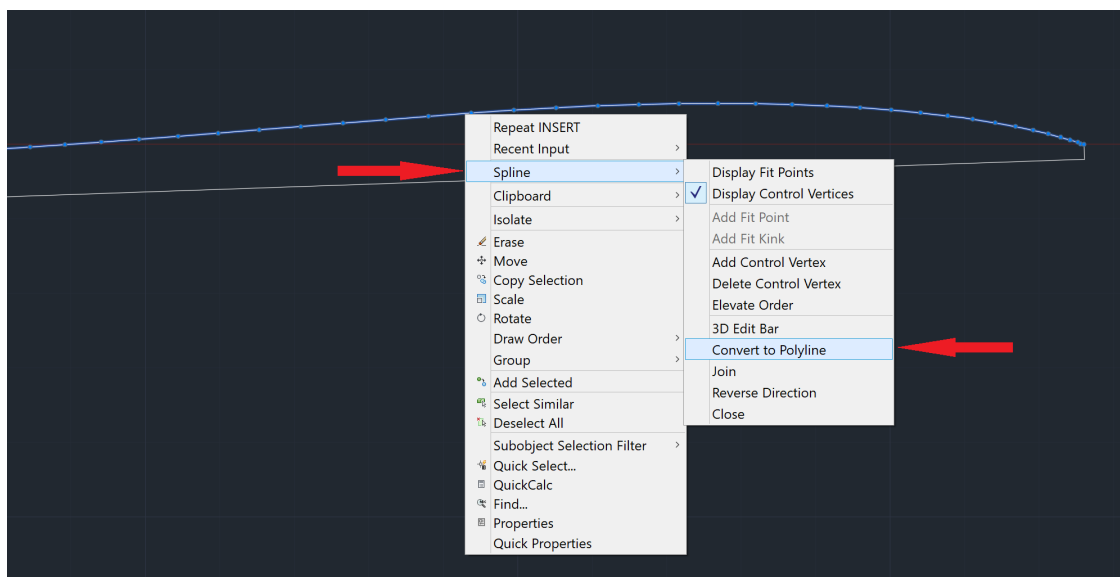

Figure 1.27: Convert Spline
6. Select all Spline (if any), right click and select “Spline → Convert to Polyline” as shown in fig 1.27 below. When ask to enter accuracy, enter 1 and press enter.